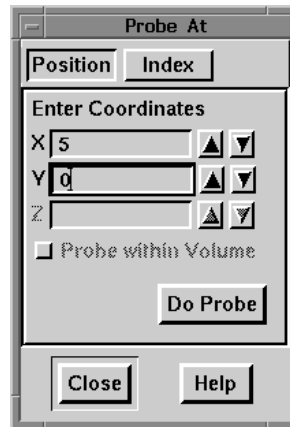

Figure 25-2. The Position page of the Probe At dialog.
1. Launch the Probe At dialog. The Probe At dialog appears, as in Figure 25-2, ready for you to enter X-, Y-, and Z-coordinates.